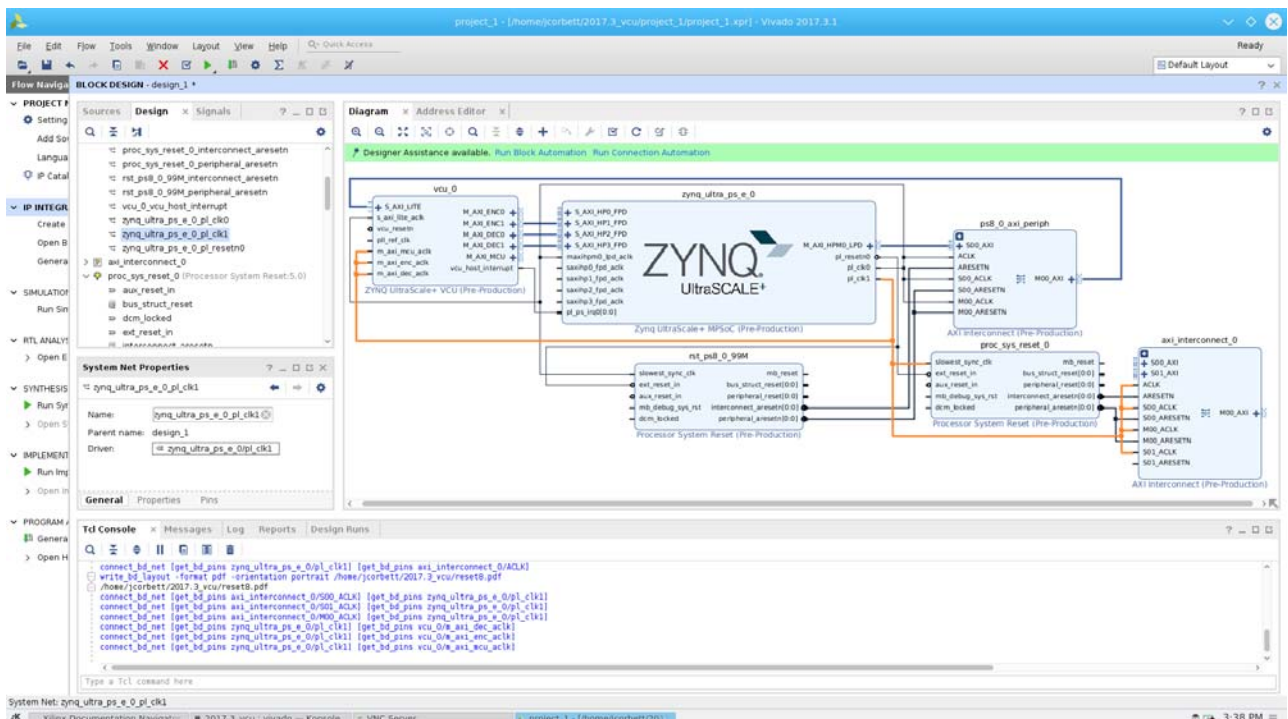

Figure 10-13: Diagram
- Use peripheral_aresetn port as a reset input to the S00_ARESETN, S01_ARESETN, and M00_ARESETN ports as shown in Figure 10-13.